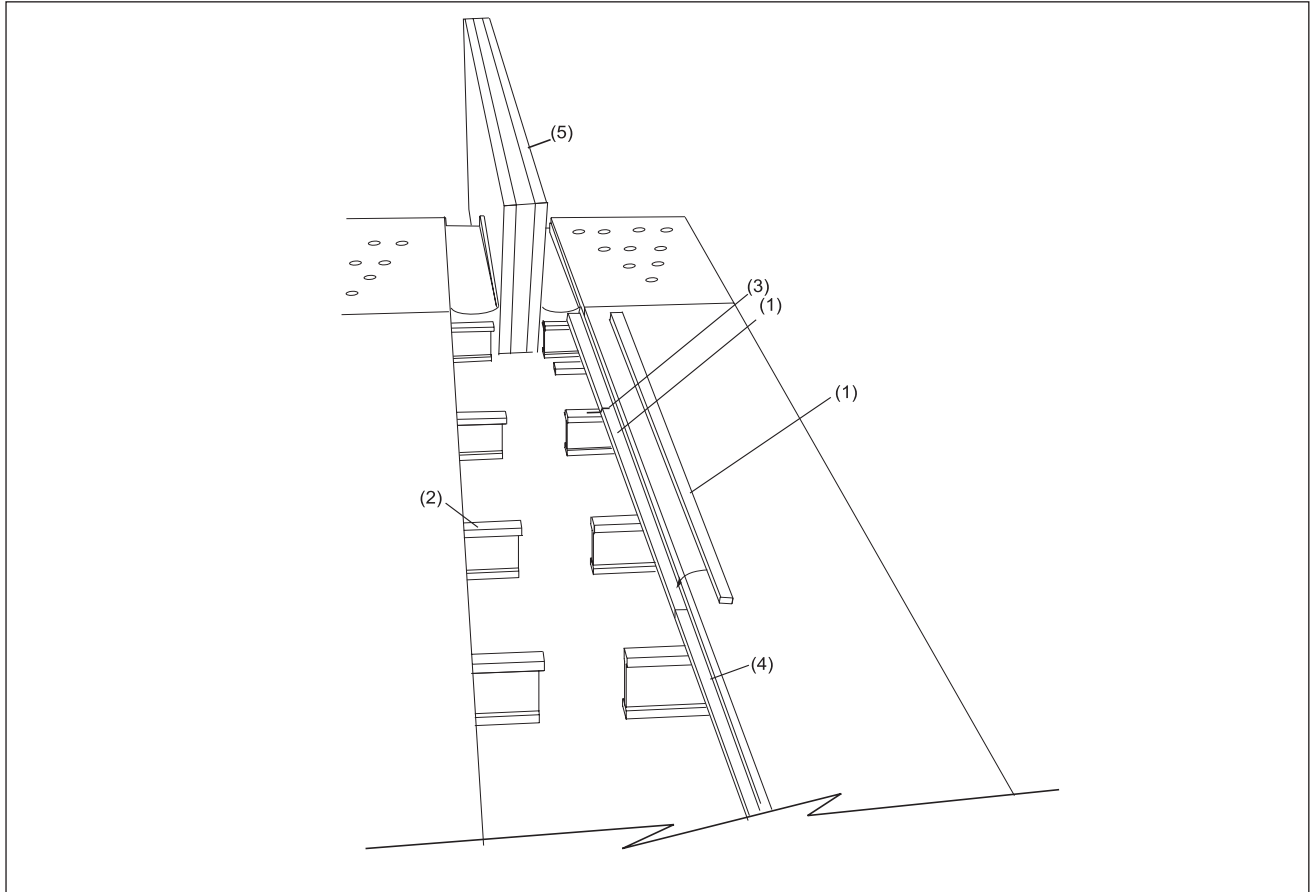

Figure 2. Mark Support Frame Side Rails
1. Mark the support frame side rails at each I-joist location by laying the side rails along the foundation sequentially as shown in *Figure 2*.